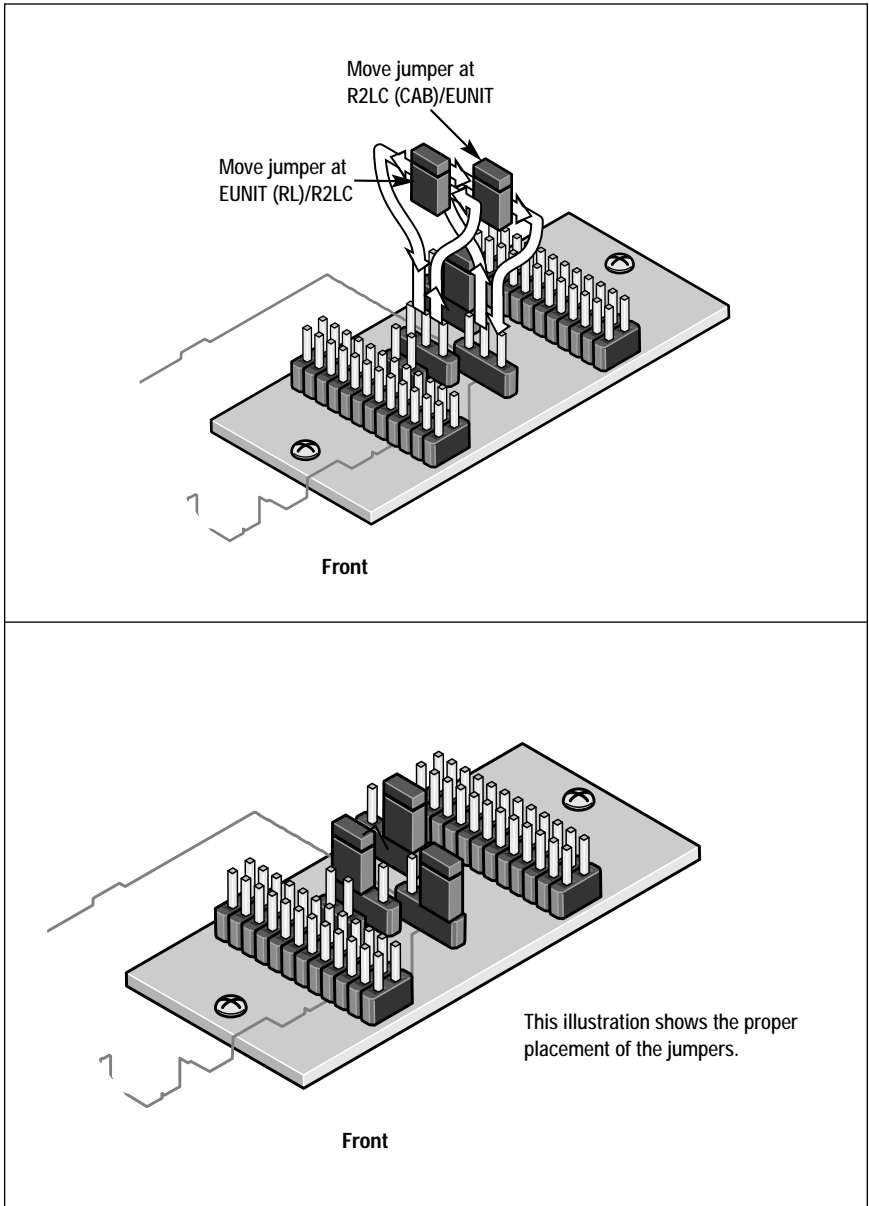

Figure 6. Jumper positions
4. Move the jumper marked EUNIT (RL)/R2LC to the next position, leaving the opposite pin open. Refer to Figure 6.
5. Move the jumper marked R2LC(CAB)/EUNIT to the next position, leaving the opposite pin open. Refer to Figure 6.